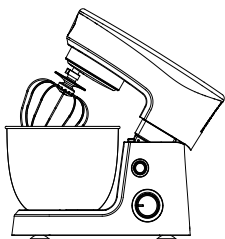
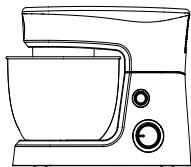

Figure 1
Figure 2
- Turn the speed control switch (3) into «0» (OFF) position and make sure the appliance is unplugged.
- Depressing the tilt button (2), the head of the appliance (1) will automatically release and lock into the tilt position.
- Select the desired attachments, which are depending on the mixingska to be performed: mixing beater (8) for mixing and beating eggs and butter and dough hook (6) for kneading the paste, the egg whisk (7) for beating and frothing the egg white / milk/liquid food.
- Place the mixing bowl (5) on position. First place the bowl on the base, then turn the bowl in clockwise until it locks into the right position (see fig.1).
- To lower the head and place mixing attachment (6/7/8) into the bowl (5) by holding the head (1) with one hand and easing the head down. A click sound will be heard when the head has reached the correct position.
- And make sure the bowl protective lid (10) in place (see fig.2).